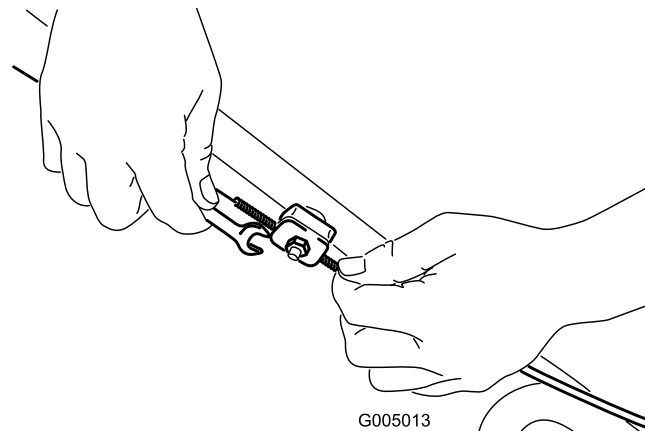

Figure 29
1. Loosen the cable support nut (Figure 29).